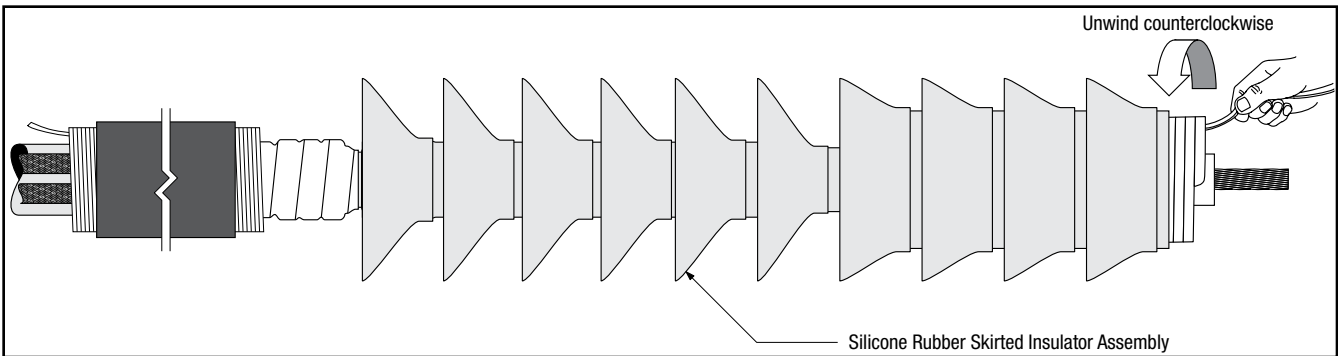

Figure 15
4.6 Slide the Silicone Rubber Skirted Insulator Assembly onto the cable. Align the assembly tube (not the core) with the end of the sealing mastic/constant force spring cover tape located 3" (76 mm) from the end of the cable semi-con, and remove the core by pulling the loose end while unwinding counterclockwise. (Figure 15)